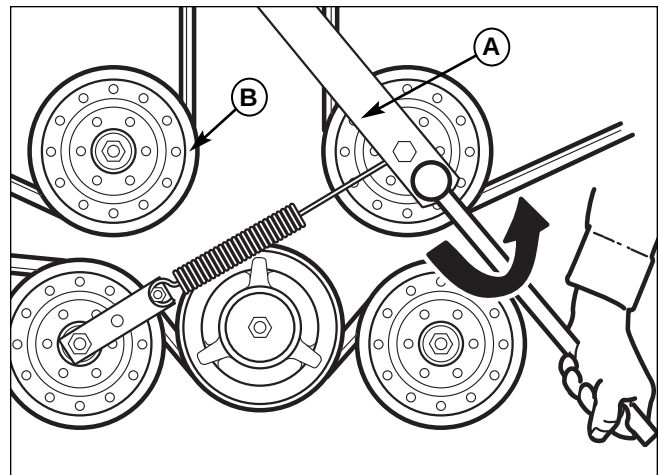

Figure 47. Mower PTO Belt
2. Using a 1/2" breaker bar, place the square end in the square hole located in the end of the idler arm (A, Figures 47). Carefully rotate the breaker bar counter-clockwise, which will relieve the tension on the belt exerted from the idler arm.
3. Slide the drive belt over the edge of the stationary idler pulley (B). Carefully release the tension on the breaker bar until the idler arm stops against the center spindle pulley.
5. Install the drive belt on the PTO pulley, the spindle pulleys and all idler pulleys except the stationary pulley (B, Figure 47). Carefully rotate the breaker bar counter-clockwise and install the belt on the stationary idler pulley (B). Carefully release the tension on the breaker bar.